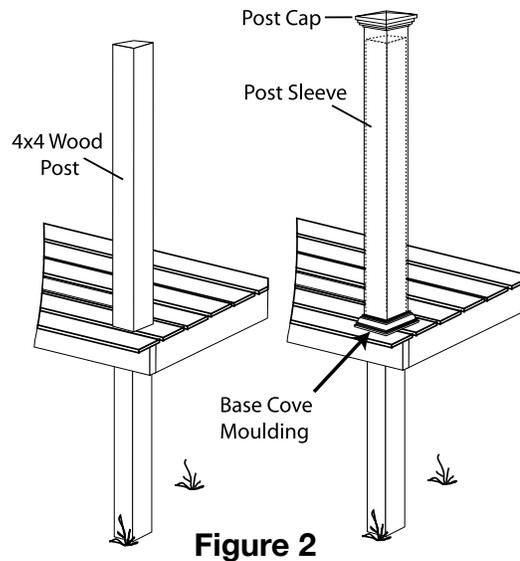

Figure 2
Use the post sleeve method to install railing directly to a wooden 4" x 4" deck post. This is ideal for new deck construction methods that attach the rim joist directly to the 4" x 4" deck support posts, where wood 4" x 4" deck support posts extend through the deck serving as rail posts (Figure 2), or in those code compliant applications where the use of existing 4" x 4" wooden posts are desired.
5. After decking is installed, slide post sleeve over the wood 4" x 4" post (Figure 2).